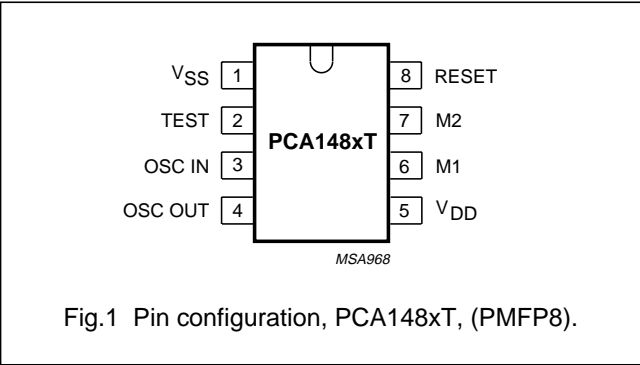

Fig.1 Pin configuration, PCA148xT, (PMFP8).
1. Figure 1 and Chapter “Package outline” show details of standard package, available for large orders only. Chapter “Chip dimensions and bonding pad locations” shows exact pad locations for other delivery formats.